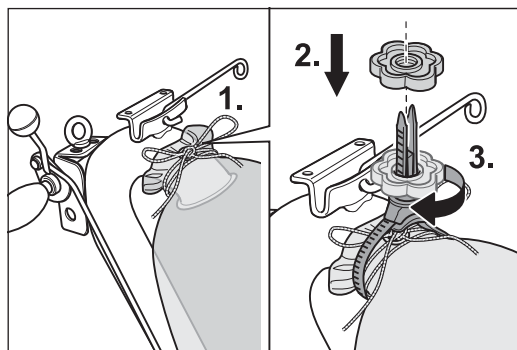

Fig. 7 Mount the dust bag using the cord (1.) and the MultiClip (2. and 3.) at the end of the guide tube.
- 7 Fasten the dust bag firmly using the cord and the MultiClip at the end of the guide tube (Fig. 7). Ensuring when mounting that the opening of the guide tube is not closed.